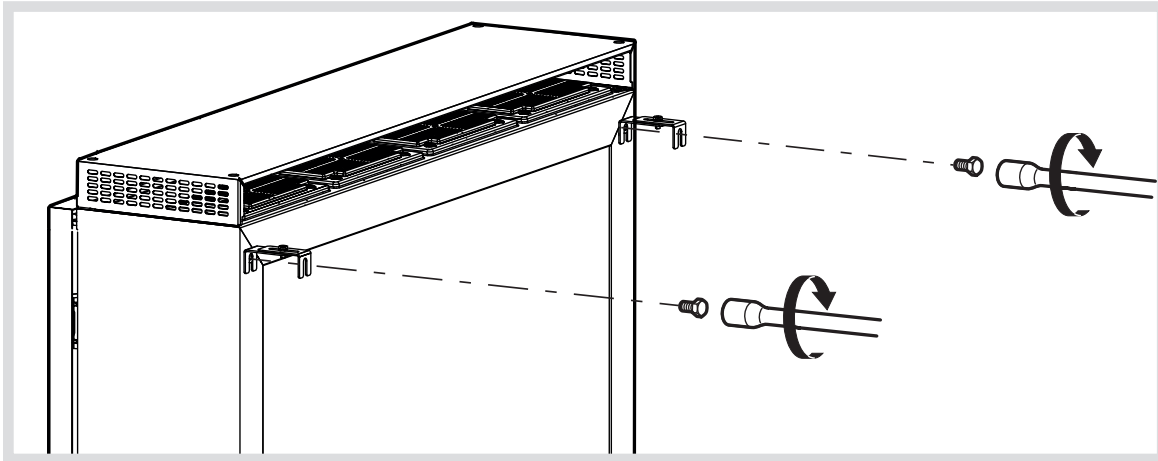

Figure 17: Rear assembly of the tabs on the side
- Screw the spacers to the back of the energy storage system for fixing the system on the side and improve ventilation. (Figure 17).